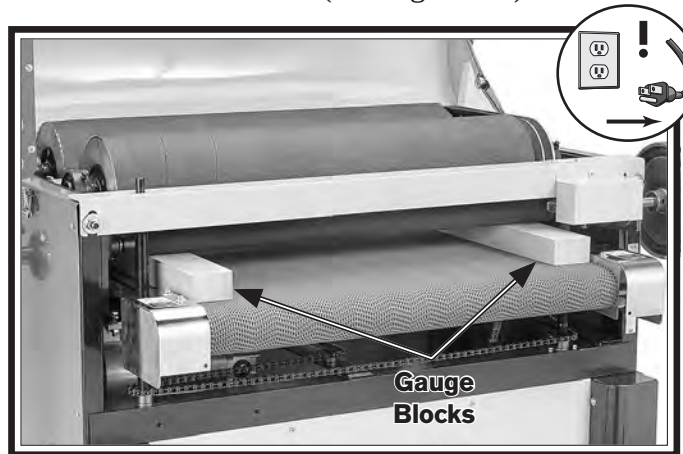

Figure 41. Example of gauge block placement.
4. Raise table so gauge block touches infeed pressure roller, and then raise table one full turn of handwheel (see Figure 41).
2. Loosen lock nuts (see **Figure 41**) on bearing block on side of drum requiring adjustment.